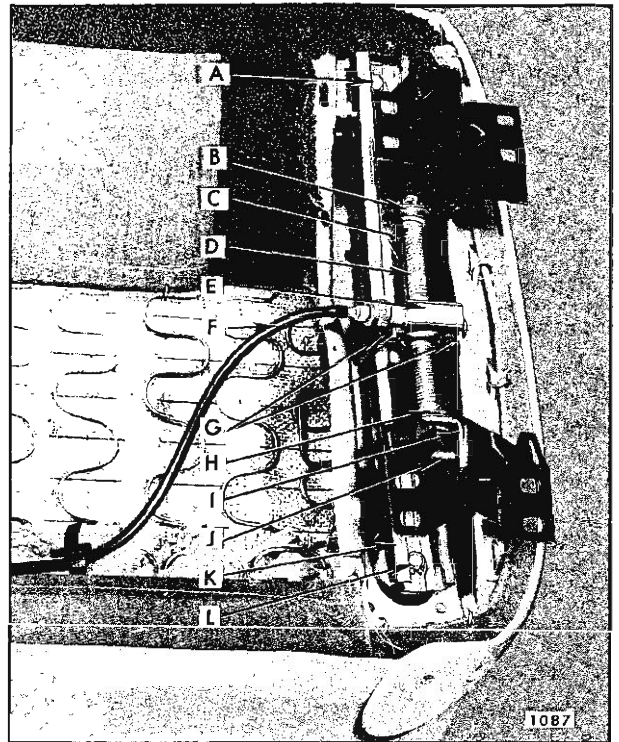

Fig. 15-11—Horizontal Power Adjuster - "C & E" Styles
- curing gearnut to upper slide portion of seat adjuster (Fig. 15-11).
2. Using a suitable tool (preferably a "clutch" type screwdriver), remove two shoulder bolts securing gearnut to upper channel to seat adjuster assembly (Fig. 15-11).
3. Using a suitable tool (preferably a "clutch" type screwdriver) remove two shoulder bolts securing gearnut to upper slide portion of seat adjuster assembly (Fig. 15-11).
4. Remove retainer that secures stop bracket crosspin to adjuster front pedestal and remove crosspin (Fig. 15-11).